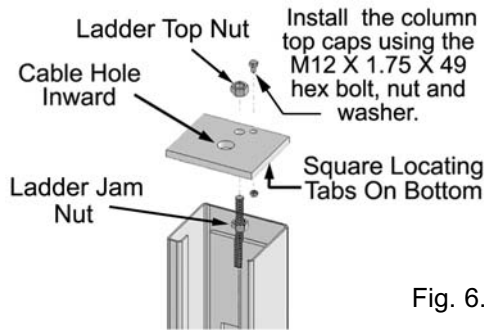

Fig. 6.
1. Position the OFFSIDE RUNWAY on top of the cross tubes with the UTILITY RAIL located inside. (See Fig. 6.)